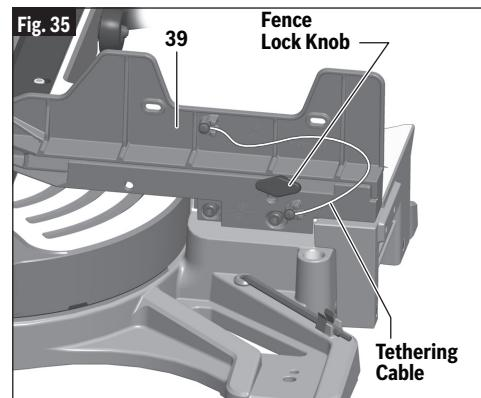

Fig. 35
1. Loosen the sliding fence lock knob counterclockwise $\frac{1}{2}$ turn to loosen fence (see Fig. 35).
1. Loosen the sliding fence lock knob counterclockwise 4 rotations, see Fig. 35.